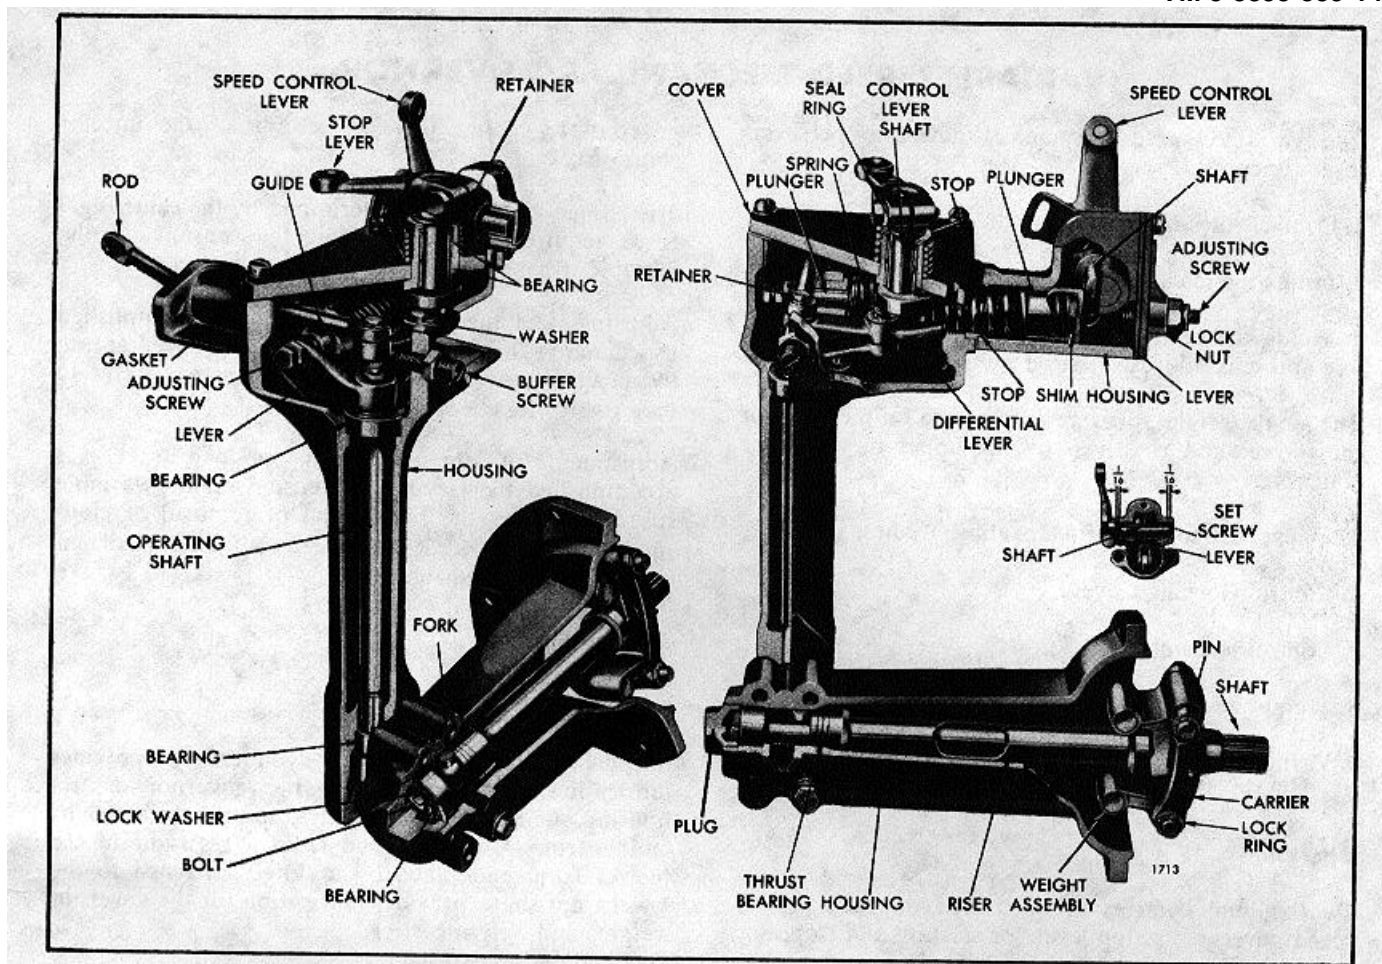

Fig. 1 - Variable Speed Mechanical Governor
3. Refer to Figs. 1 and 2 and disconnect the fuel rod from the differential lever and injector control tube lever.